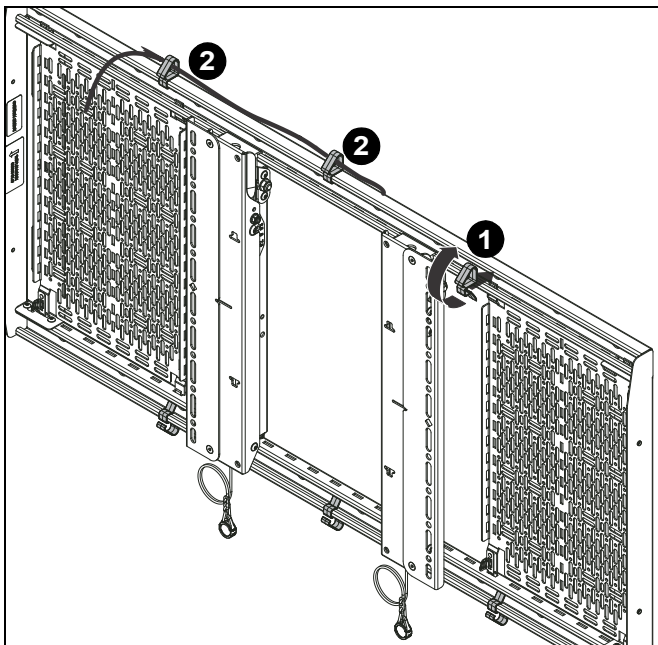

Figure 31
1. Install cable clips (P) onto top and bottom rails as desired. (See Figure 31)
2. Route cables through clips (P). (See Figure 31)